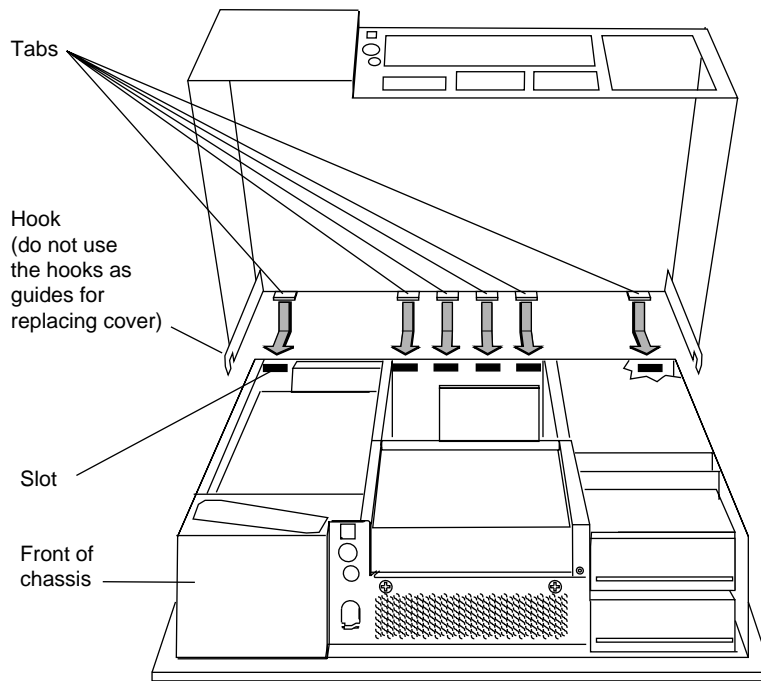

Figure 5-69 Replacing the Top Cover
1. Locate the tabs on the inside and back of the top cover and the slots on the back of the workstation. See Figure 5-69.